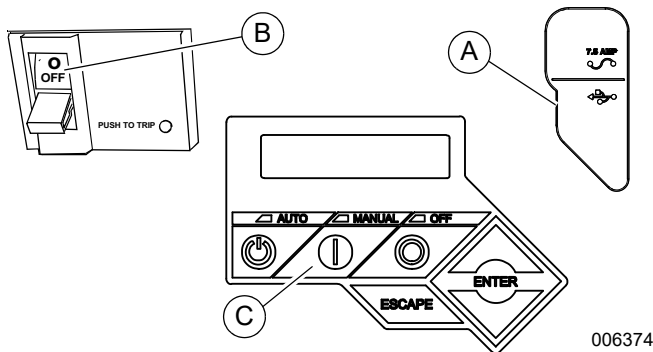
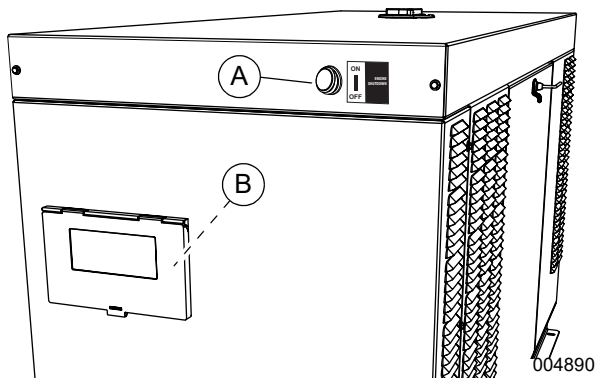
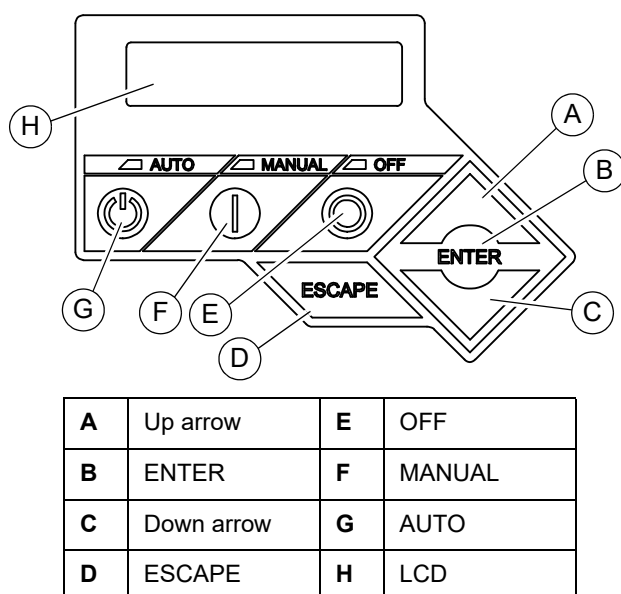

Figure 3-5. Generator Control Panel
Figure 3-6. Auxiliary Shutdown Switches
Figure 4-1. Control Panel and LCD
1. See Figure 3-5. Pull up rubber flap covering fuse holder and verify installation of 7.5 amp fuse (A).
2. Set the main line circuit breaker (MLCB) (generator disconnect) to OFF (OPEN) (B).
3. Verify both auxiliary shutdown switches are ON (I). See Figure 3-6 for locations.
4. Press MANUAL on control panel (C) to start engine. A blue LED illuminates to verify system is in MANUAL.
See **Figure 3-6**. Generators 15 kW and larger are equipped with two auxiliary shutdown switches. One auxiliary shutdown switch (A) is located on the generator roof above and to the right of the viewing window. The second auxiliary shutdown switch (B) is inside the control panel enclosure.
See Figure 4-1. The control panel is located behind the viewing window at the rear of the unit. See Figure 3-5 and Figure 3-6.